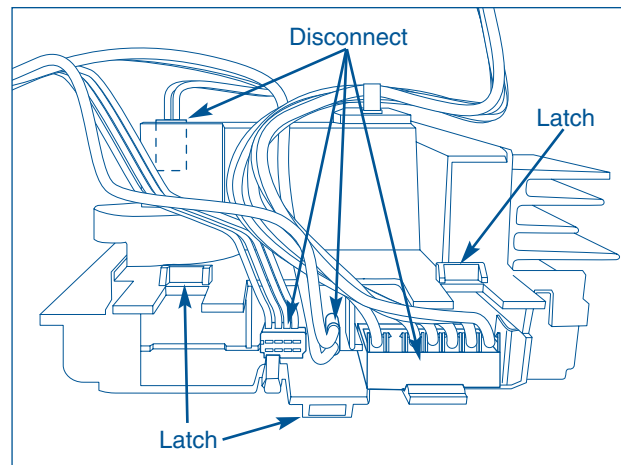

Figure 4-53.
8. Disconnect all wire harness connections from the speed control assembly. (See Figure 4-53)